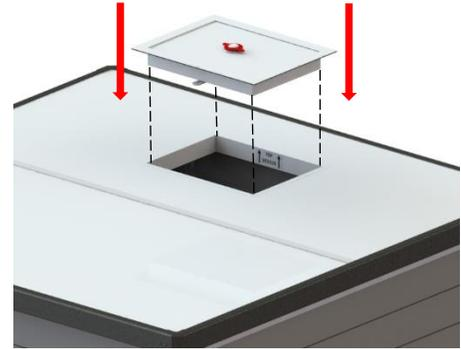

Figure 57
- 13) Turn the escape hatch handle to retract the arms and install it into the escape hatch opening of the panel. (Figure 57)